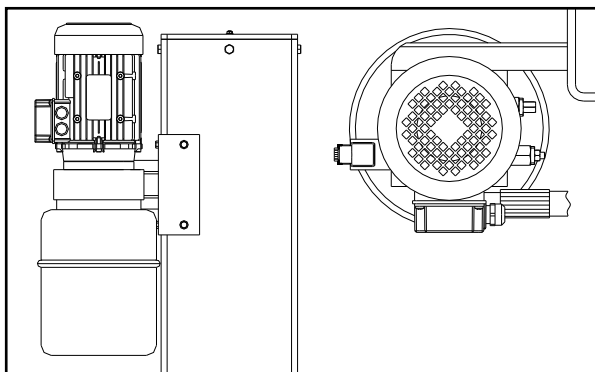

Fig. 31
- ◆ Install the pump on the hock board according to *Fig. 31* and fix it on the bottom of main column.